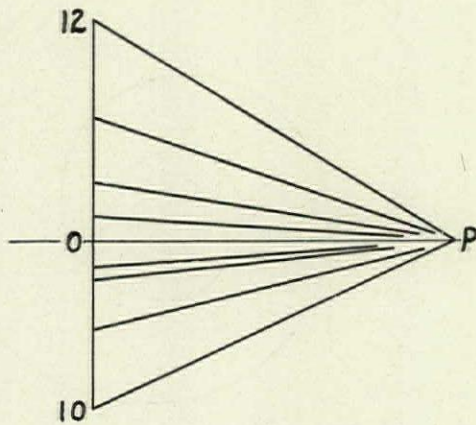

Fig. 10
- (6) Draw the lines P_{12} , P_8 , P_4 , P_H , P_I , etc. (Fig. 10).